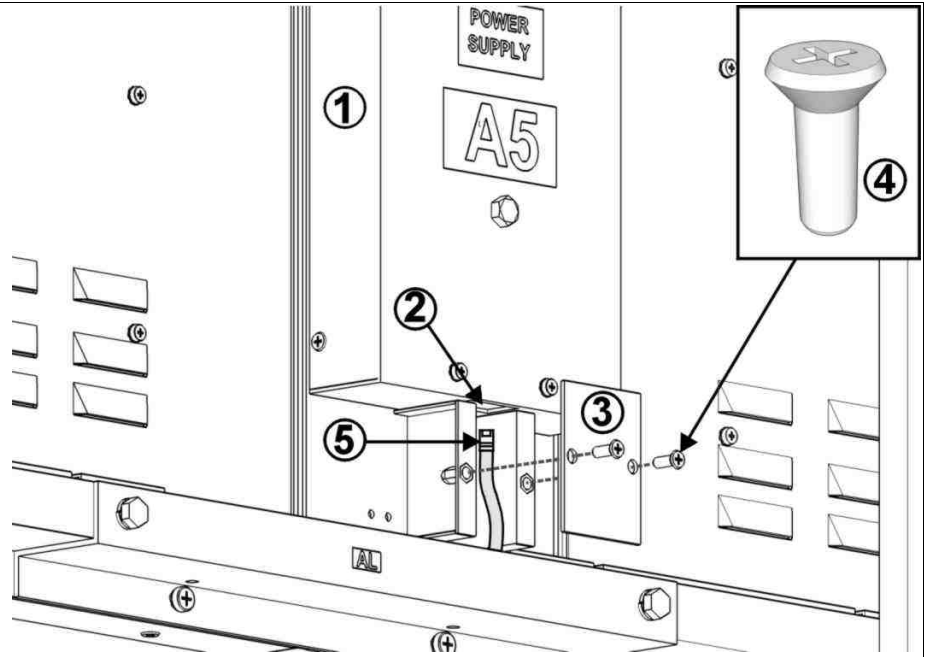

Fig. 10: Rear side of the POWER SUPPLY module
2. Unscrew the two **M5x16** screws and remove the cover of the cable entry conduit, located at the bottom of the **POWER SUPPLY** module (see Fig. 10), in order to make the opening where the cables should be introduced more visible. Introduce, one by one and to their full available length, all the cables from the various modules. If there is a **Radio Receiver**, introduce its cable. Otherwise introduce the serial data cable provided (length 5m) for circa 40cm. Then close the cover to the cable entry conduit.